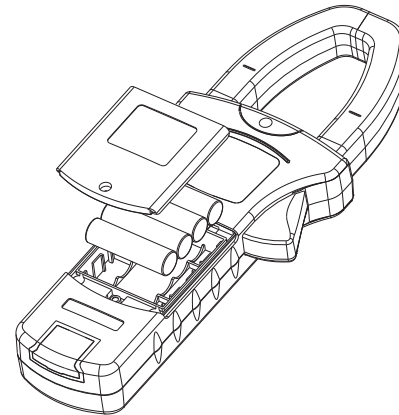

Figure 37
B. Replacing the Battery (see figure 37)